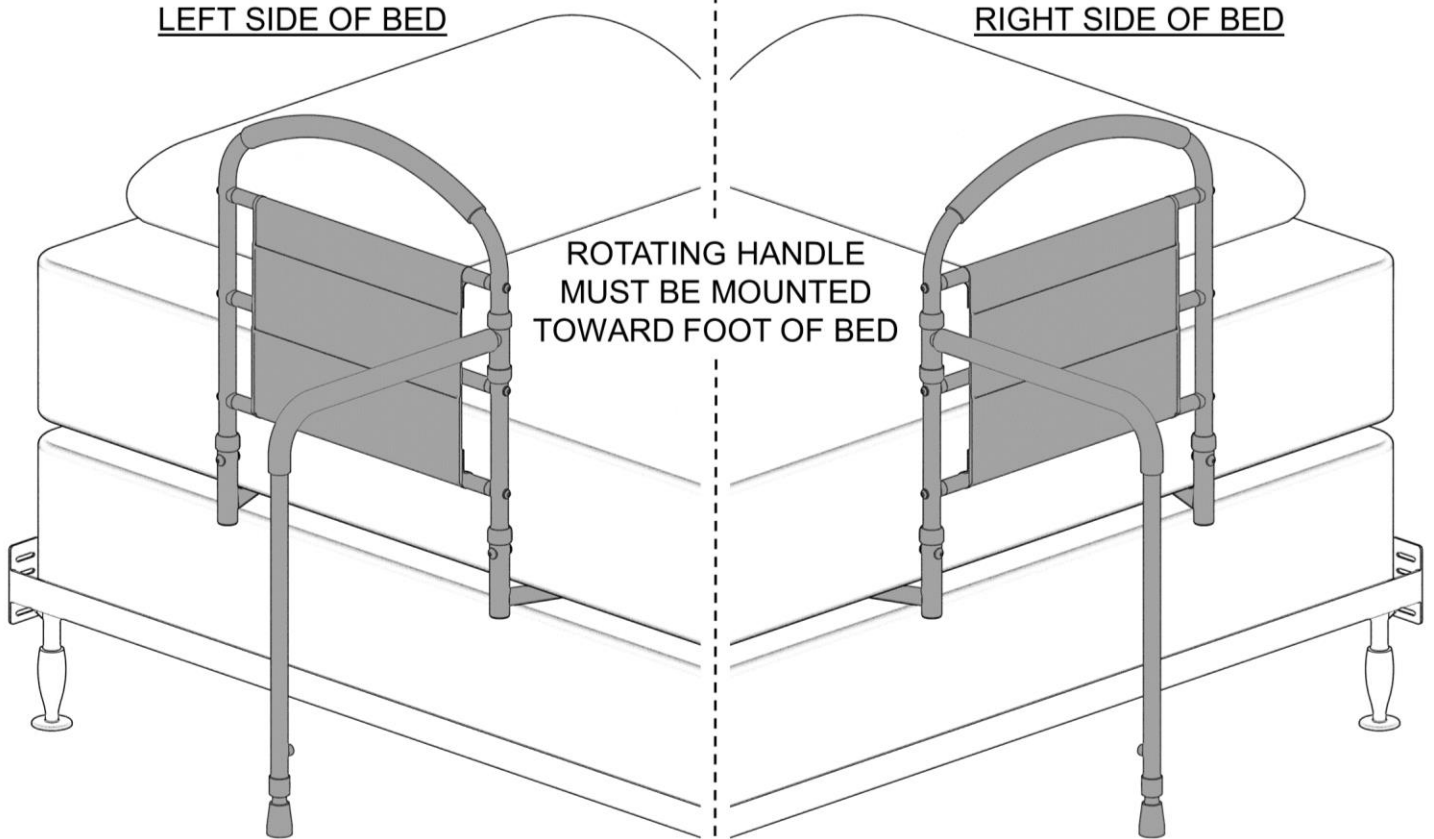

FIGURE 2
2. Determine which side of the bed the product will be installed on; the Side with the Rotating Handle will always be closest to the foot of the Bed, as shown in *FIGURE 2*. Instructions will show right side assembly.